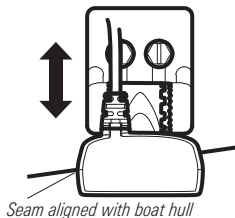

Figure 23
- Adjust the transducer assembly vertically, until the seam on the leading edge of the transducer (the edge closest to the transom of the boat) is level and just slightly below the hull (Figure 23).
5. If you have the correct angle set on the transducer, yet lose a bottom reading at high speed, adjust the height and the running angle in small increments to give you the ideal transducer position for your boat. First, adjust the height in small increments (Figure 23).